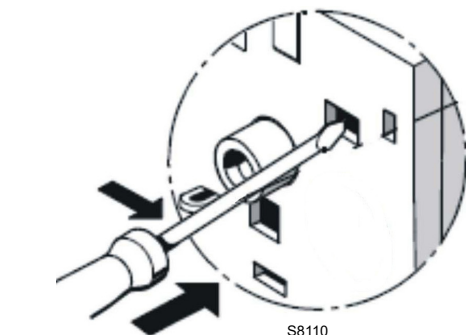

Fig. 21
- **Contact test NC (95-96) and NO (97-98)(Fig. 21)**